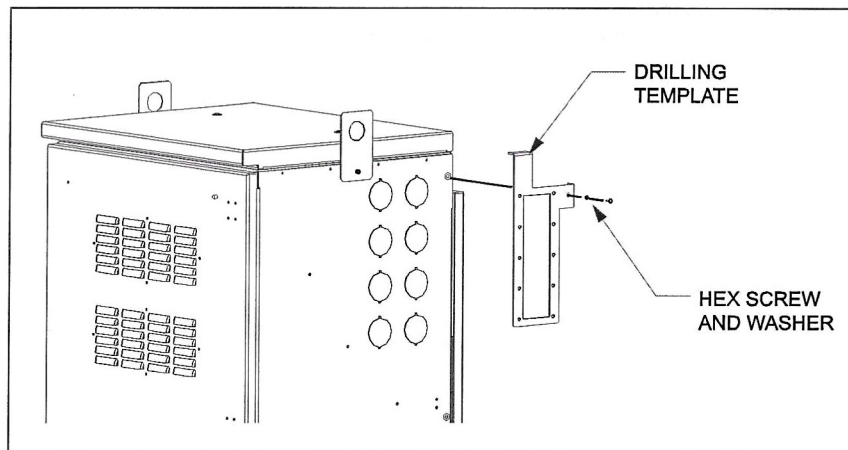

Figure 2 Set Drilling Template
1. Place the drilling template on the left side of the CUBE. Secure in place using the hex screw and washer that ship with the kit. This ensures that the drilling template is correctly positioned (Figure 2).